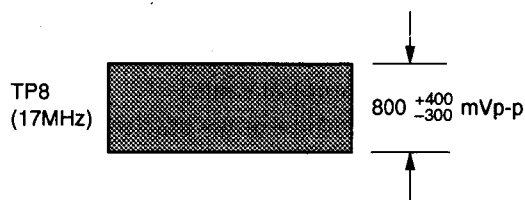

Fig. 5-2-9
- Confirm that the 17MHz Carrier level becomes 800 mV p-p as shown in the Fig. 5-2-9.